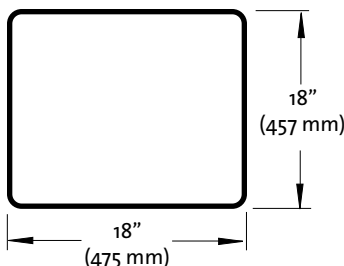

Figure 5.1. Minimum combustible floor protection.
**This appliance MAY NOT be installed directly on carpeting, vinyl, or linoleum.** If this appliance will be installed on any combustible material OTHER THAN WOOD, a floor pad must be installed that is either metal, wood, ceramic tile, stone, or a listed hearth pad. This floor protection must extend the full width and depth of the appliance. It is not necessary to remove carpeting, vinyl, linoleum or laminate from underneath the floor protection. See fig. 5.1.